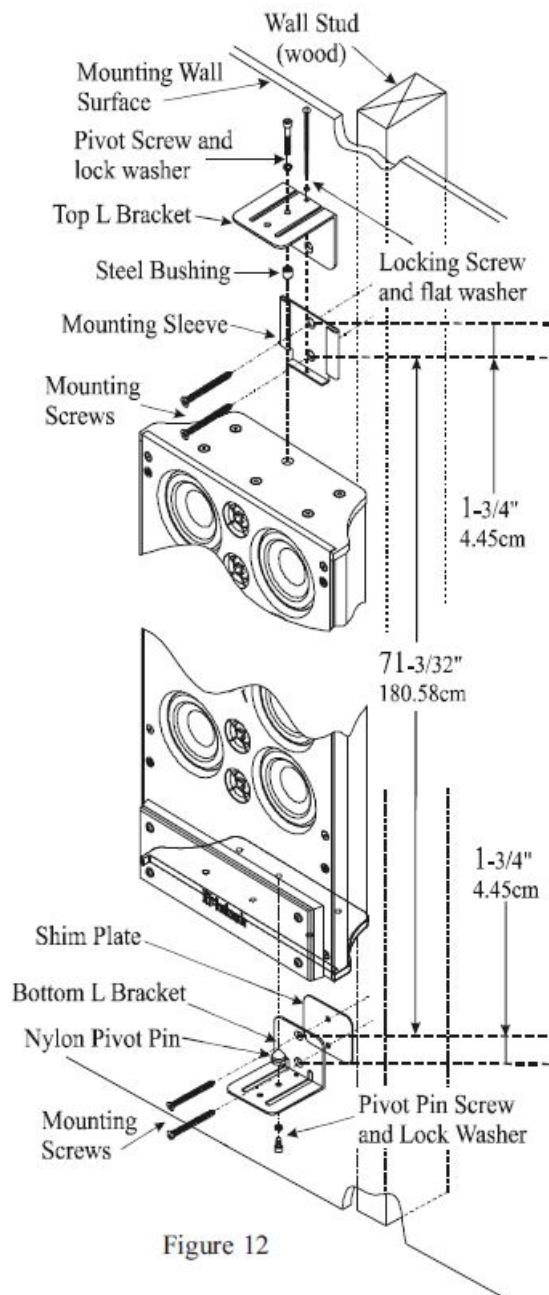

Figure 12
14. Referring to figure 12, measure down from the just mounted L Bracket and install the Bot-tom L Bracket together with the Shim Plate, using the supplied Mounting Screws.
17. Orient the Loudspeaker Grille with the extended wood trim Figure 12 pointed to-wards the Columns Base and line it up even with top/sides of the Column. Align the Grille fastening pins to the Column Grommets (there are six pins on each side). Carefully push down to secure the Grille to the Column.